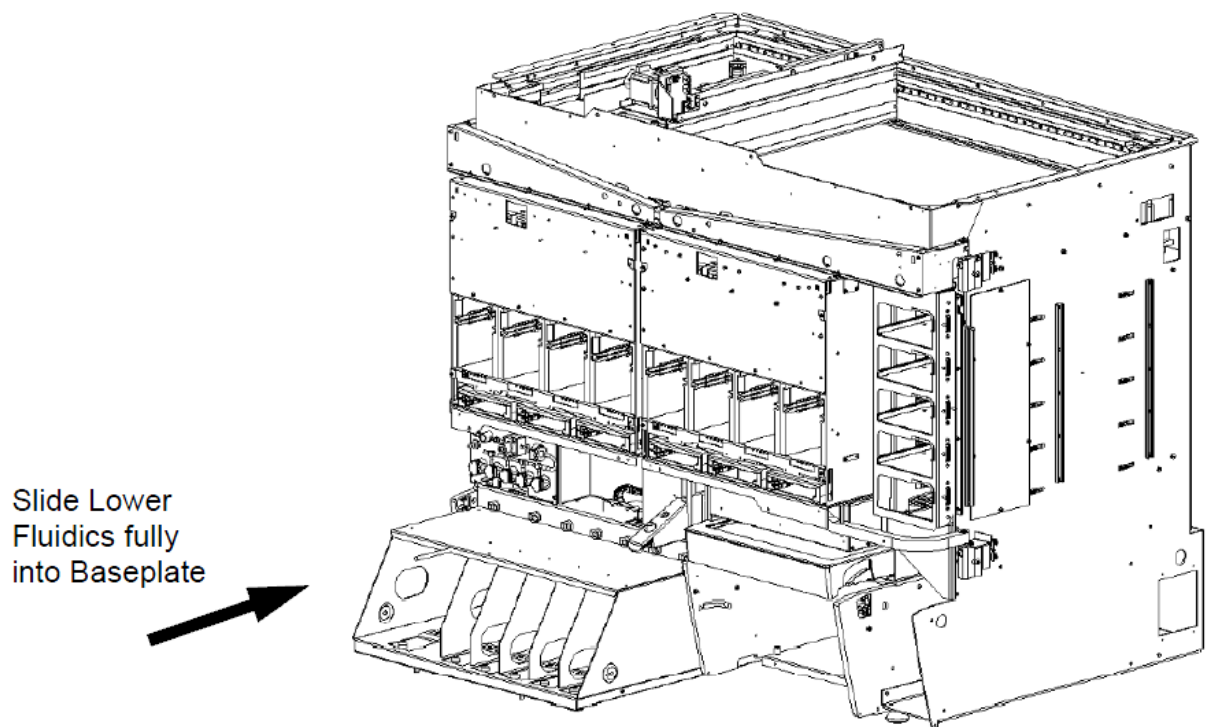

Figure K-3: Sliding the Assembly from the System
3. Slide the Assembly from the Housing (Figure K-3).